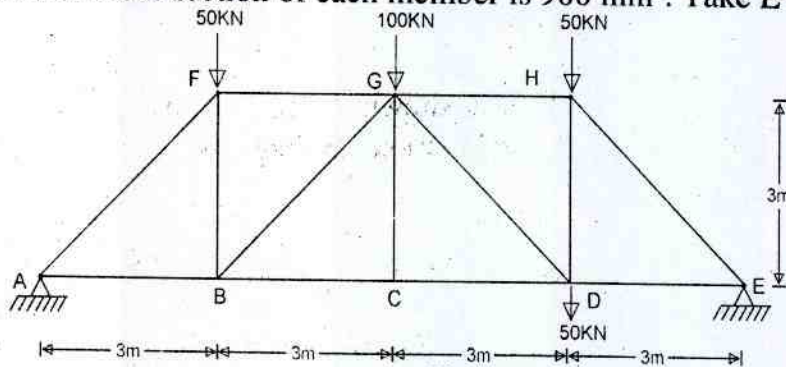

Fig.6
- Q.3 Using unit load method, find the vertical deflection at joint D of the truss as shown in fig.6. Area of cross section of each member is 900 mm^2 . Take $E = 2 \times 10^5 \text{ N/mm}^2$ [16]